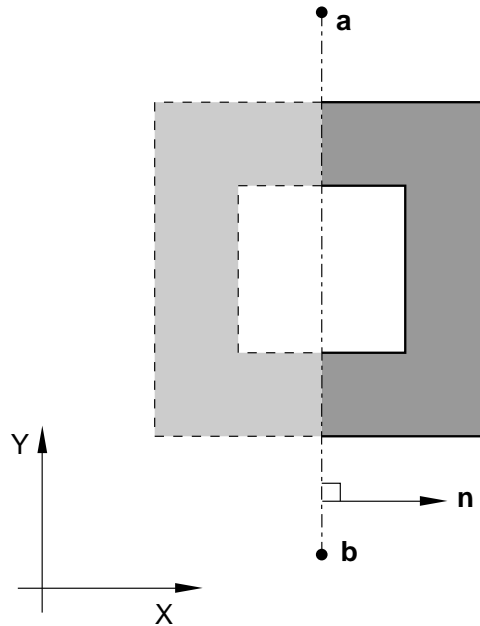

Figure 17.12–1 *REFLECTION, TYPE=LINE option.
Set TYPE=LINE to create a cavity composed of the cavity surface defined in the model and its reflection through a line. See Figure 17.12–1. This option can be used only for two-dimensional cases.
Set TYPE=PLANE to create a cavity composed of the cavity surface defined in the model and its reflection through a plane. See Figure 17.12–2. This option can be used only for three-dimensional cases.
Set TYPE=ZCONST to create a cavity composed by the cavity surface defined in the model and its reflection through a line of constant z -coordinate. See Figure 17.12–3. This option can be used only for axisymmetric cases.
1. X -coordinate of point a (see Figure 17.12–1).
1. X -coordinate of point a (see Figure 17.12–2).
1. z -coordinate of symmetry line (see Figure 17.12–3).